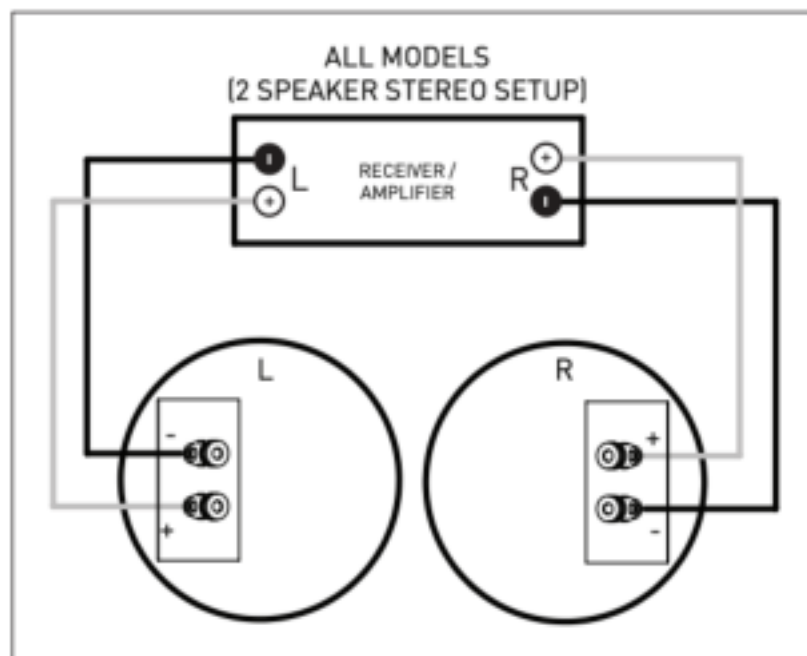

Fig. 5a
2. Connecting (Fig. 5a) *(all models except H65-SM, see below)*